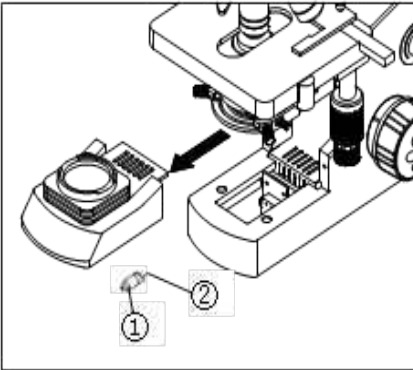

Fig.11
- 1.Pull out the condenser holder as shown in Fig.11.
- 2.Hold the bulb① after you wrap it with gauze or other protection materials, and then insert its pin② deeply into the jack in the lamp holder.